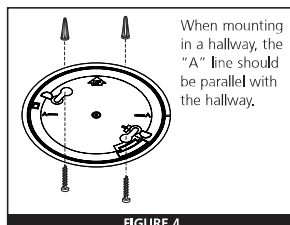

FIGURE 4
2. After selecting the proper smoke alarm location as described in Section 1, attach the mounting bracket to the ceiling as shown in Figure 3. For wall mounting see Figure 4. Place the mounting plate on the wall; be sure the "A" line is horizontal (parallel to the floor). Use the screws and cavity fixings provided to secure the mounting bracket (use 3/16" drill bit for cavity fixings.).